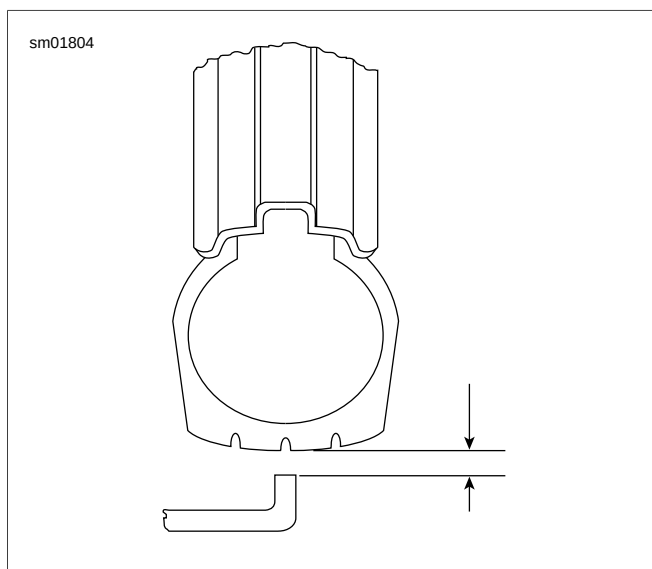

Figure 2-76. Checking Tire Radial Runout
2. See Figure 2-76. Turn the wheel on the axle and measure tire radial runout at the tread centerline.